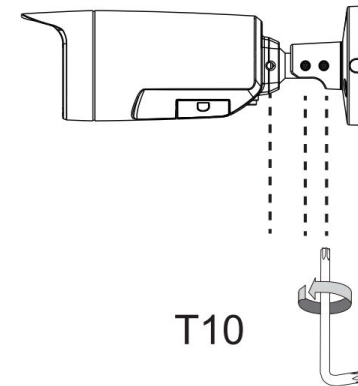

Figure 1-3
Step 3 To adjust the viewing angle of the camera, locate the adjustment screws on the side of the camera's base and loosen. See Figure 1-3.